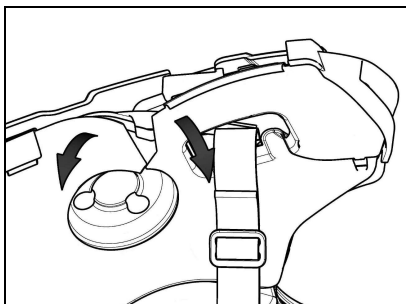

Fig. 6
- Lift up the plastic lining of the cheek padding (Fig. 6)